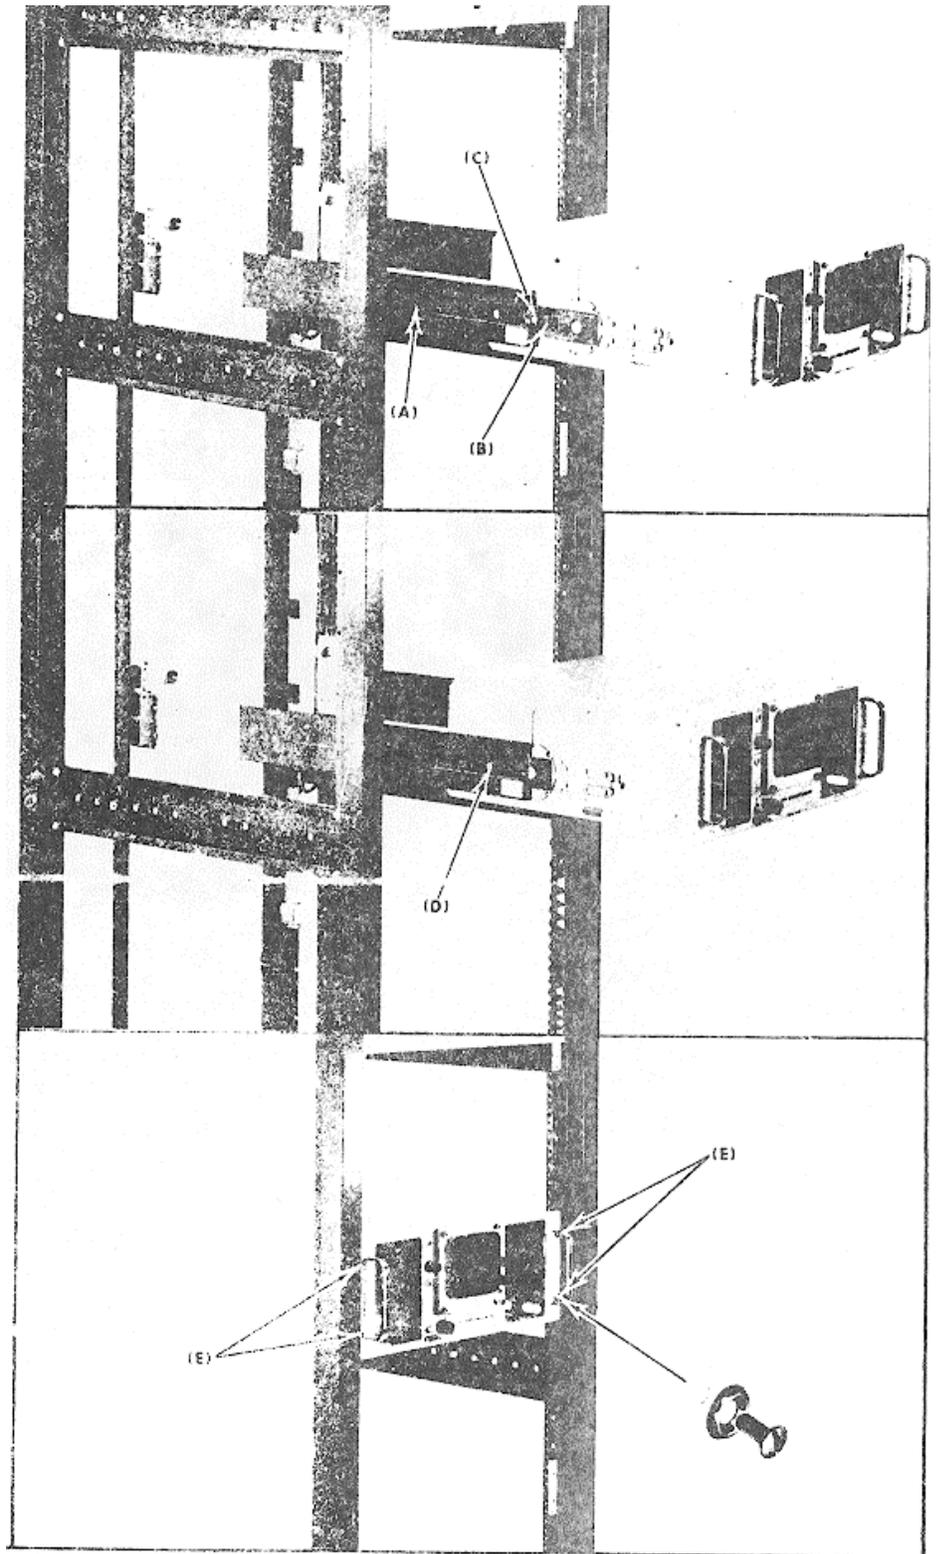

Fig. 11-10. Insertion and removal of the instrument after the slide-out tracks have been installed.
Replace the bottom dust cover that was removed earlier. Referring to Fig. 11-10, insert the instrument into the rack. Do not connect the power cord and do not install the securing screws. Use the following procedure to adjust the instrument alignment in the rack.
panel using a finishing washer and Teflon washer as shown in Fig. 11-10. If the front rails are not tapped for either the 10-32 or 12-24 oval-head screws, some other means of securing the instrument into the rack must be provided.
8. To provide a proper shock-mounted installation, the front panel of the instrument should be fastened to the front rails of the rack with four oval-head securing screws, as shown in Fig. 11-10. (Replace the bottom screw holding the front of
After the initial installation and adjustment of the slide-out tracks, the instrument may be removed or re-inserted in the rack by following the instructions given in Fig. 11-10. Under normal circumstances, no further adjustments are required.